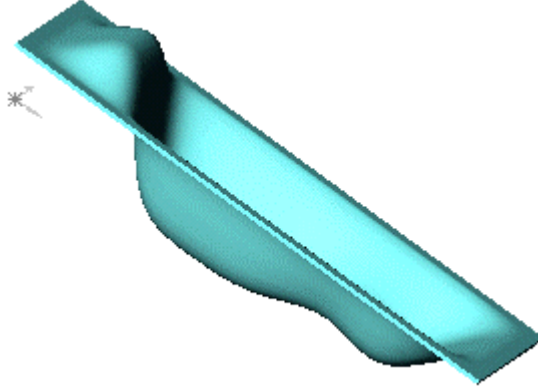

Fig. 6
- 5 Rotate  to see what you have (Fig. 6).